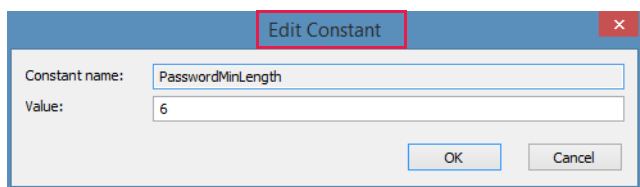

Figure C-22: Edit Constant Dialog Box
2. Click **Edit Constant** to display the Edit Constant dialog box (Figure C-22).